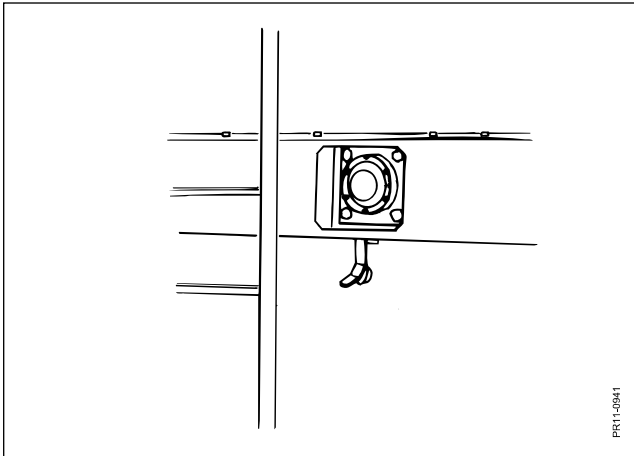

Fig. 9.1
- Fig. 9.1** When cleaning the mixing tank inside the drain plug can be unscrewed and hung in the rear-lifting eye.